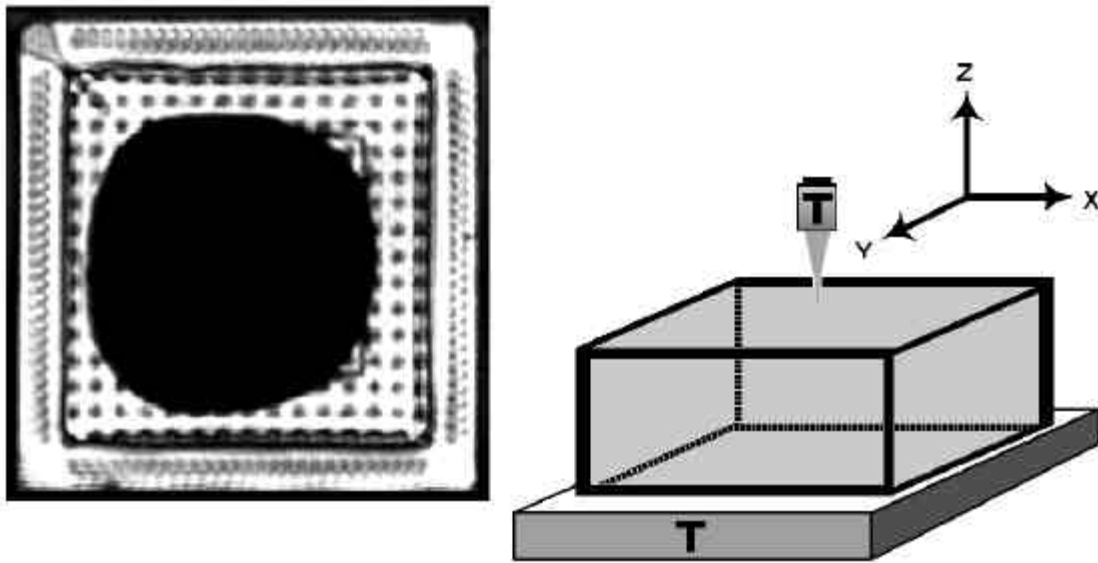

Figure 4 — Example of Through Transmission Display
Acoustic data collected in an X-Y plane throughout the depth (Z) using a through transmission acoustic microscope. A Through Transmission mode scan contains only amplitude information at each point in the scan plane. A Through Transmission scan furnishes a two-dimensional (area) image of transmitted ultrasound through the complete thickness/depth (Z) of the sample/component. See Figure 4 – Example of Through Transmission Display.